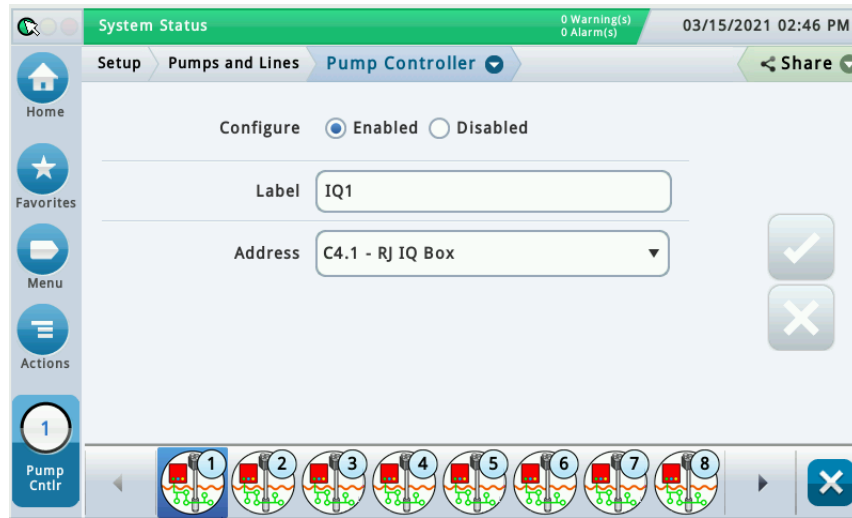

Figure A-12. RJ Control Box Setup Screen - Unit 1 Example
1. At the TLS-450PLUS display touch **Menu>Setup>Pumps and Lines>Pump Controller** and select Pump Cntrl #1 (see Figure A-12).